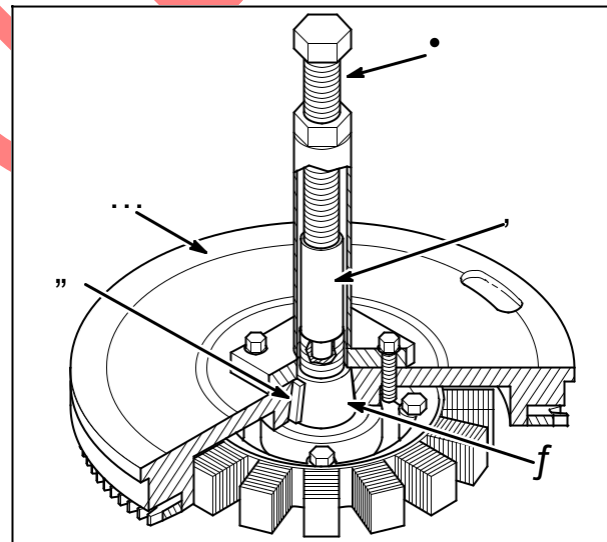

Fig. 19
With pilot (2) installed to the crankshaft (3), place the flywheel with puller attached, onto the pilot, **Fig. 19**.